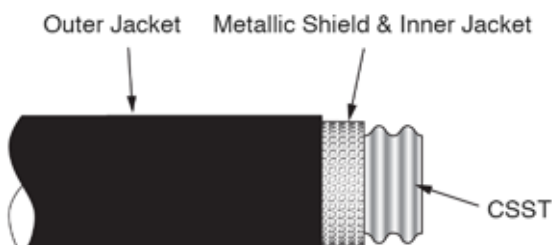

Fig. 4-18
STEP 4 CUT & STRIP OUTER JACKET LAYER (FIG. 4-18, FIG. 4-19)